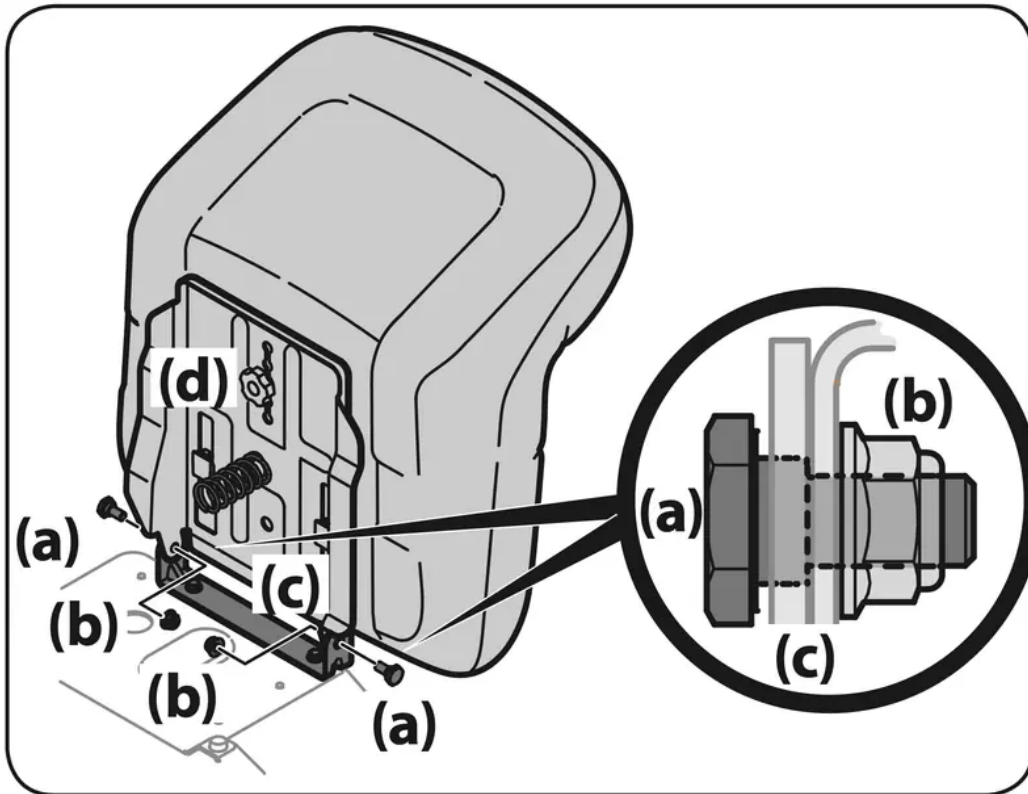

Figure 7
- Position the seat assembly over the seat mounting bracket, aligning the holes provided. See Figure 7.
- Install the two shoulder bolts (a) and lock nuts (b) removed from the seat mounting bracket (c) in Step 1. See Figure 7.
- To adjust the position of the seat, loosen the adjustment knob (d) on the bottom of the seat. Slide the seat forward or backward as desired. Securely retighten the adjustment knob. Refer to Figure 7.